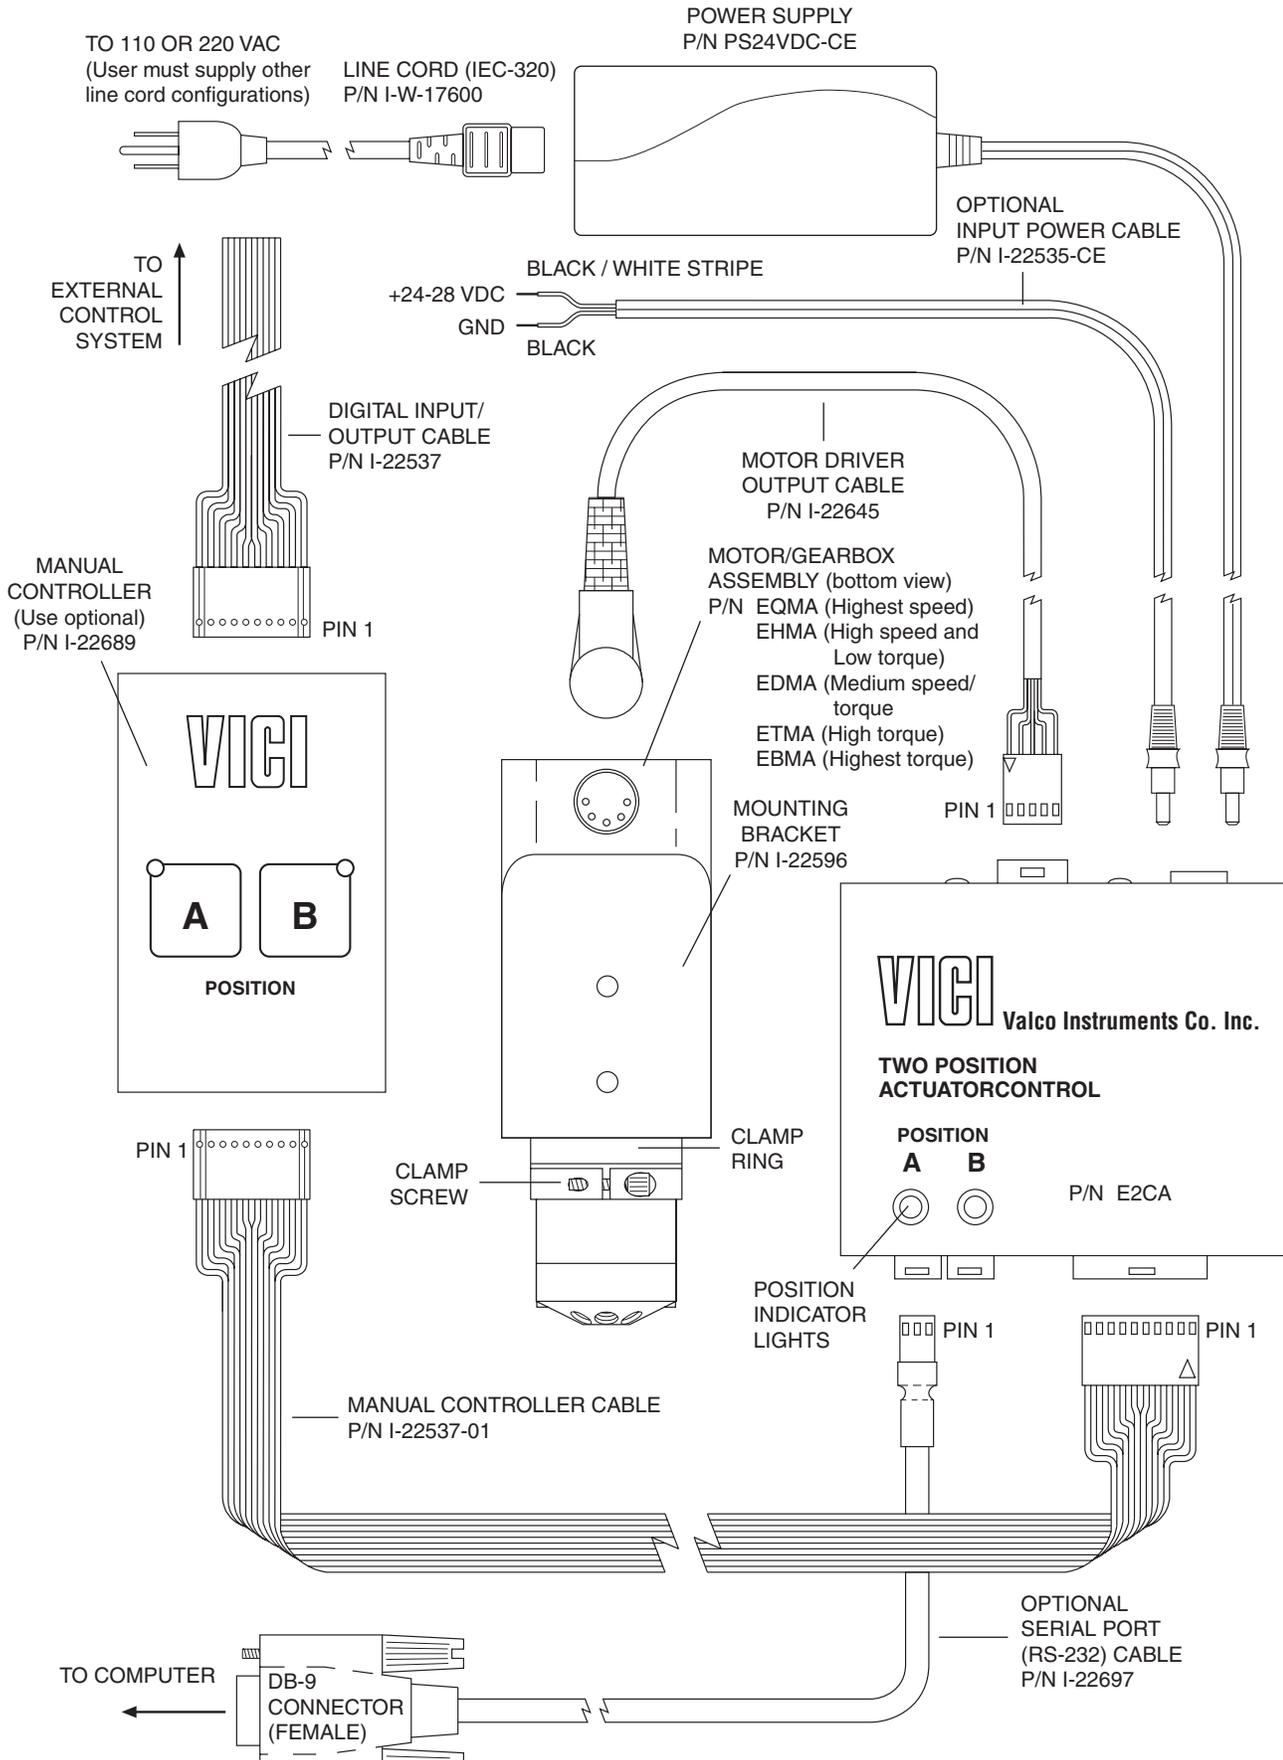

Figure 1: Actuator and controller connections
Figure 1 shows how to connect the various actuator components. There are four connectors on the control module, keyed and sized to prevent incorrect connection.
1. Connect the I-22697 cable to the actuator as indicated in **Figure 1**, and set the serial port at 9600 baud, no parity, 8 data bits, 1 stop bit, no hardware or software handshaking. (Valco's VCom software automatically sets the serial port to these default settings.)
To set the ID of an actuator, connect it to a serial port as shown in **Figure 1** on page 2.